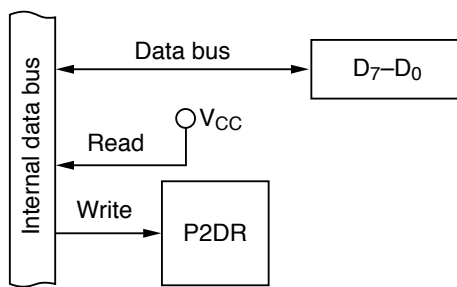

Figure 9-12 Data Bus: D₇ to D₀ (Modes 1, 3, 4, 5, and 6)
(1) Data Bus (All Pins: Modes 1, 3, 4, 5, and 6): Figure 9-12 shows a block diagram illustrating the data-bus function. Table 9-7 indicates register read/write data. When port 2 operates as a data bus, the values in the port 2 data register (P2DR) have no effect on the bus lines. When read, P2DR returns all 1s.